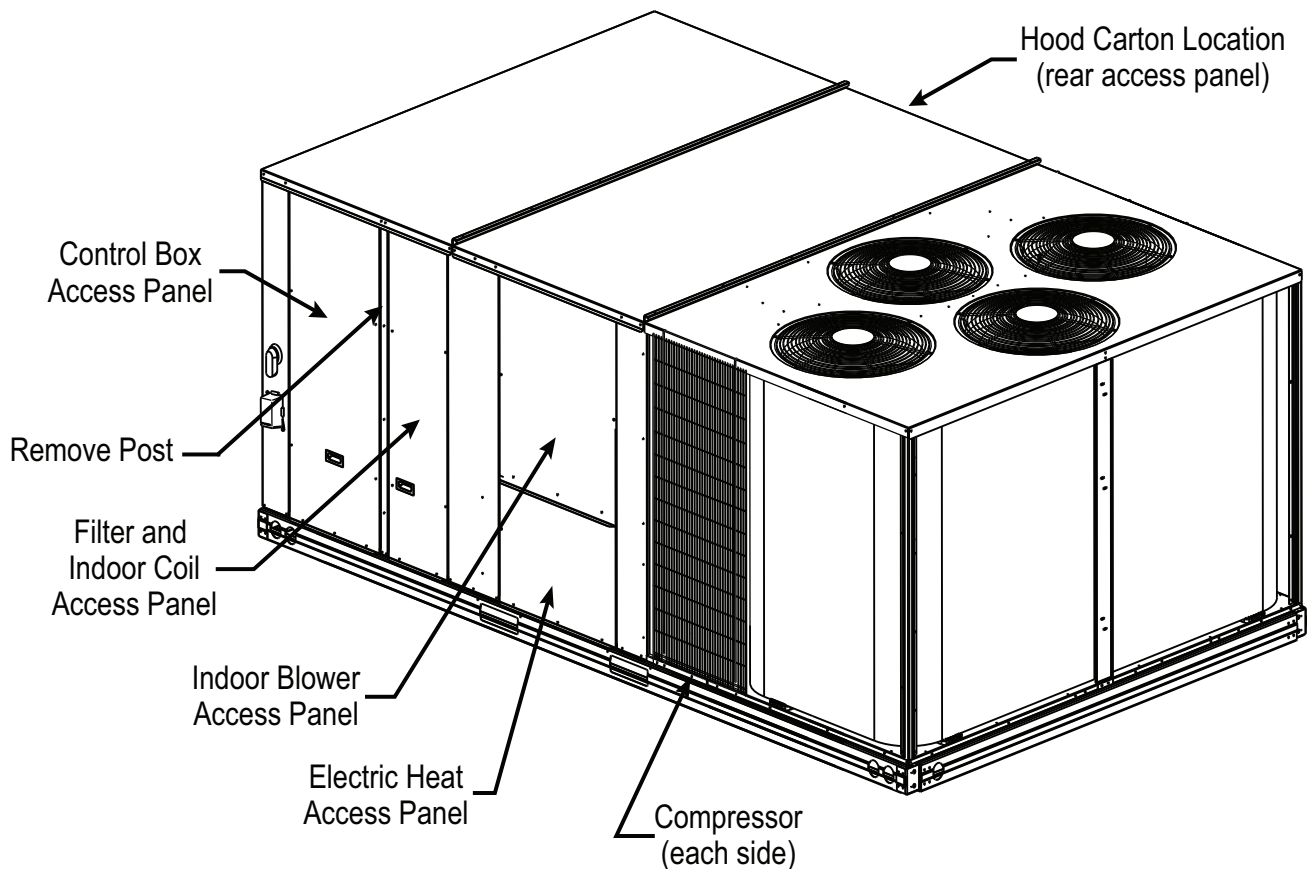

Fig. 1 — Access Panels
2. Locate and remove control box access panel, filter access panel and post between control box access panel and filter access panel. (See Fig. 1.)